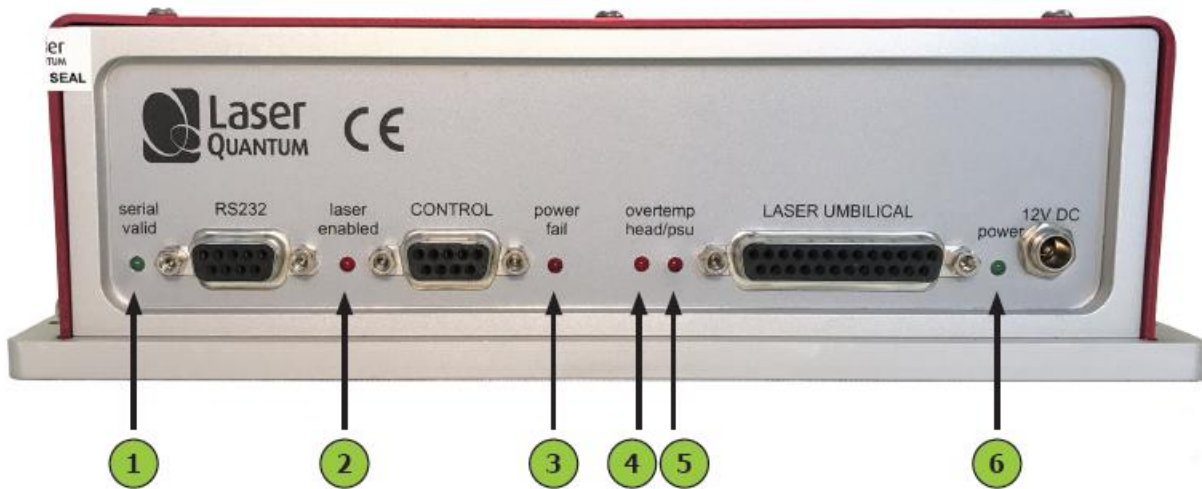

Figure 4-2
- 4 The analogue Control port (see Figure 4.2) is multi-functional as it has connections for Interlock, Enable Switch and Laser Power Control/Modulation. The Interlock must be closed to allow the laser to operate, and this can be achieved using the supplied green-spot Interlock Dongle.
The **MPC600** can be operated directly via the control port (see Figure 4.2) by applying 0 to 5 V, interlocks and push button in accordance with the diagrams in this section.